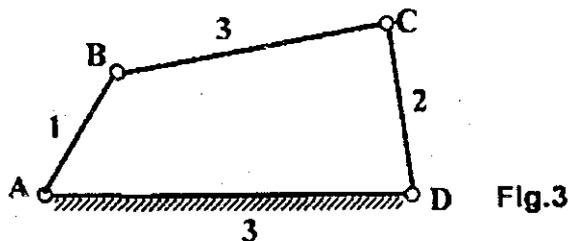

Fig.3
- (ii) Find the maximum and minimum transmission angles for the mechanism shown in Fig. 3. The figure indicates the dimensions in standard units of length. (4)